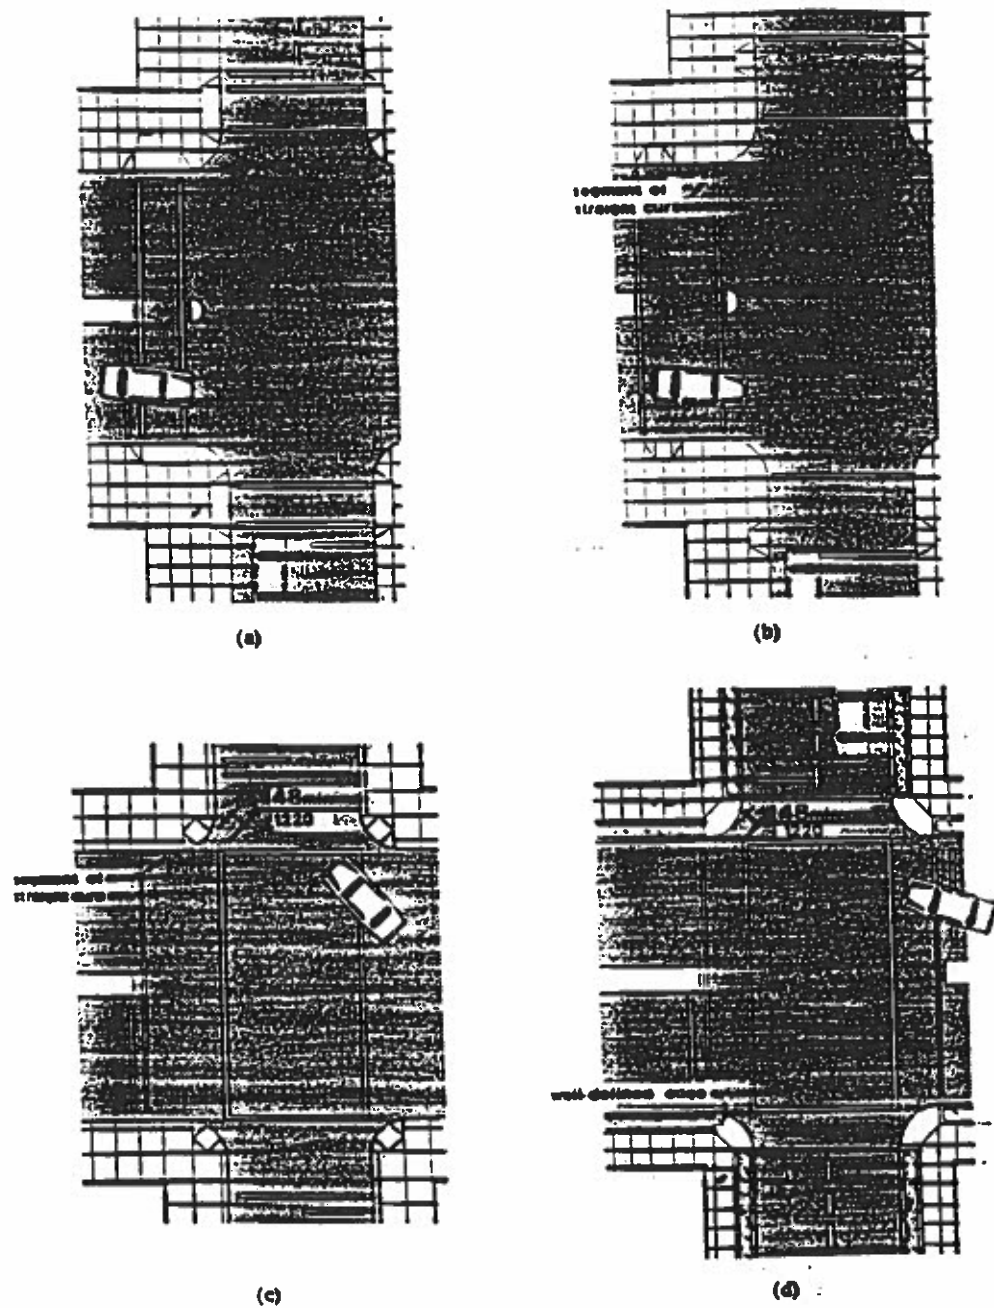

Fig. 15
**4.7.9 Location at Marked Crossings.** Curb ramps at marked crossings shall be wholly contained within the markings, excluding any flared sides (see Fig. 15).
**4.7.10 Diagonal Curb Ramps.** If diagonal (or corner type) curb ramps have returned curbs or other well-defined edges, such edges shall be parallel to the direction of pedestrian flow. The bottom of diagonal curb ramps shall have 48 in (1220 mm) minimum clear space as shown in Fig. 15(c) and (d). If diagonal curb ramps are provided at marked crossings, the 48 in (1220 mm) clear space shall be within the markings (see Fig. 15(c) and (d)). If diagonal curb ramps have flared sides, they shall also have at least a 24 in (610 mm) long segment of straight curb located on each side of the curb ramp and within the marked crossing (see Fig. 15(c)).
**4.7.11 Islands.** Any raised islands in crossings shall be cut through level with the street or have curb ramps at both sides and a level area at least 48 in (1220 mm) long between the curb ramps in the part of the island intersected by the crossings (see Fig. 15(a) and (b)).